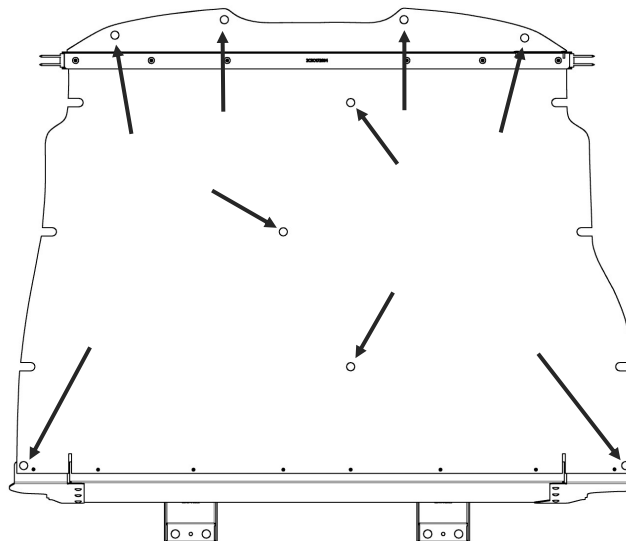

Figure 5
- B. Roll the front of the Rubber Top Cover back and use a Philips screwdriver to tighten the (8) Philips head screws that were installed in Section IX Step B.
- C. Lay the Rubber Top Cover out and align all the holes. Use the (9) push-in rivets [3X246] to secure the rubber (Fig. 5).